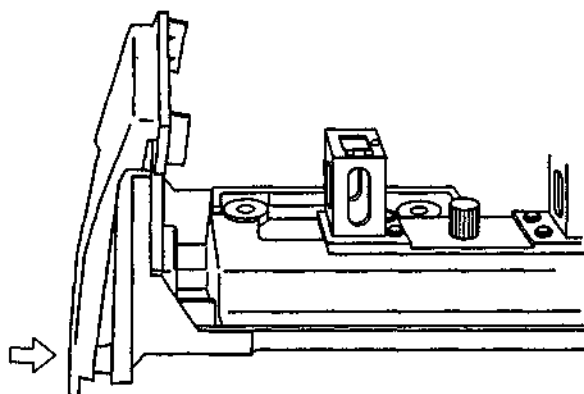

Fig. 5.5.4 "Cover, Sample Compartment" mounting direction
- (6) Press the "Cover, Sample Compartment" against the sample compartment unit, in the direction of the arrows in Figure 5.5.4, until it snaps into place.